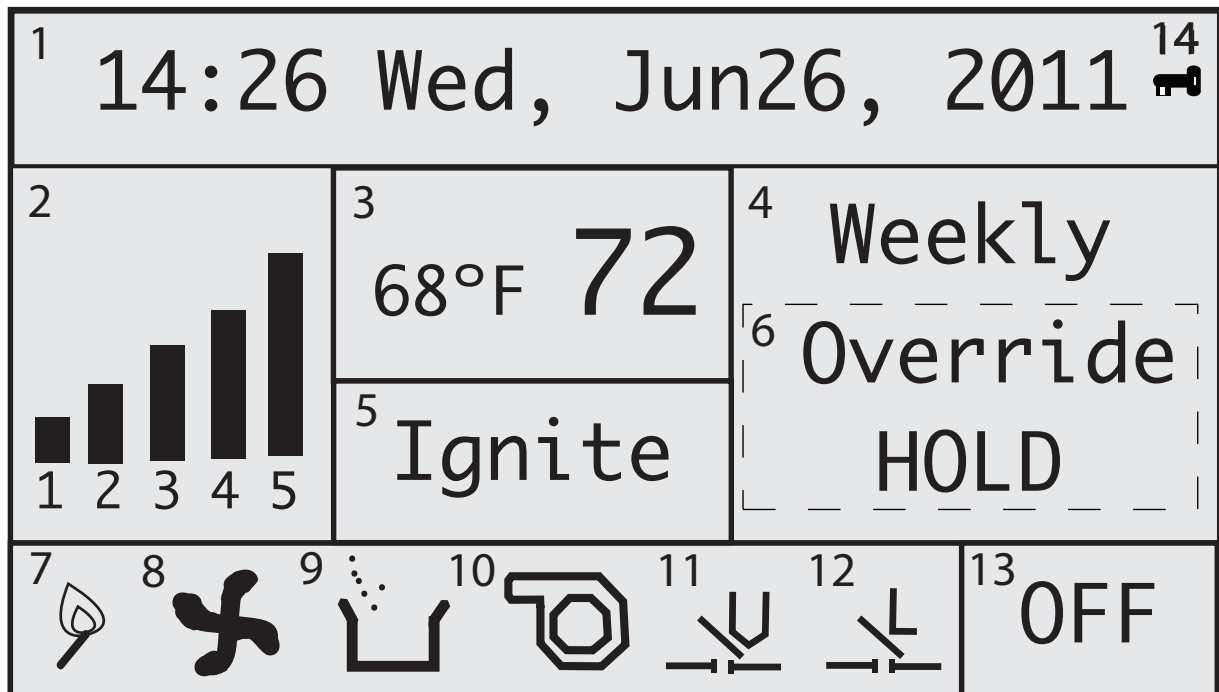

Figure 19: Main Operation Controller Screen Display
When the stove turns on, the ignition indicator and the exhaust blower indicator will appear on the screen (7 and 8, Fig. 19).
**"Ignite"** will also appear in the work stage box (5, Fig. 19) on the screen. After approximately four seconds, the vacuum switch indicator (11, Fig. 19) will appear. Also note that the hopper lid open indicator (limit indicator) (12, Fig. 19) will appear anytime the stove's hopper lid is properly shut and sealed.
The stove exhaust blower will continue to run for three minutes, then the auger indicator (9, Fig. 19) will flash on the screen, indicating that the auger is feeding pellets into the stove. Within three to five minutes of the auger feeding pellets, a fire should ignite. Once a fire is lit, the work stage box on the screen will read "Heating Room".
To increase or decrease the **"call to"** temperature, use the **SCROLL UP** or **SCROLL DOWN** button (8 and 10, Fig. 17). The current room temperature will be displayed in the temperature display box (3, Fig. 19) on the screen, as will the **"call to"** temperature.
- With a schedule set, make sure that the main display screen on the controller reads **'WEEKLY'** (for operating in the Weekly Mode) and that the unit is turned on. The schedule will not take effect unless the unit is turned on in the Weekly Mode. (13, Fig. 19).